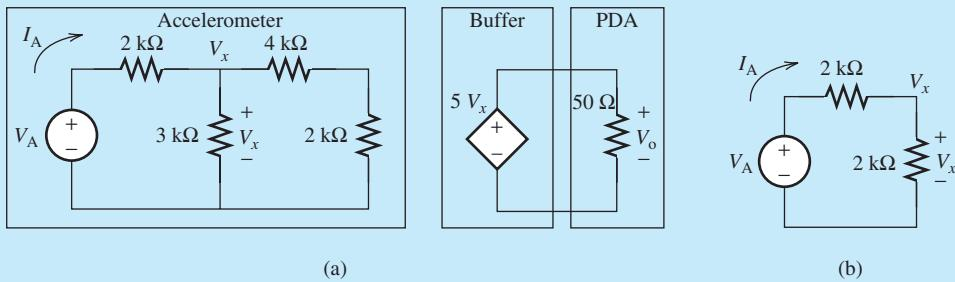

FIGURE 3.42 (a) The circuit model for the accelerometer and the PDA; (b) equivalent circuit for the accelerometer.
To avoid having the PDA overload the accelerometer's resistive network, it is isolated from the accelerometer using a buffer, modeled by the dependent voltage source. The accelerometer gives the acceleration as a varying output voltage, V_A . The voltage, V_A , ranges from 0 to $V_{\max} = 5\text{ V}$. The circuit model is shown in Figure 3.42. To calibrate the accelerometer and the PDA, the inventor needs to find the circuit parameters as follows:
- Figure 3.42(b) shows the equivalent circuit for the accelerometer obtained by finding the equivalent resistance of $3\parallel(2+4) = 2\text{ k}\Omega$. Using simple voltage division, and taking $V_A = V_{\max}$: